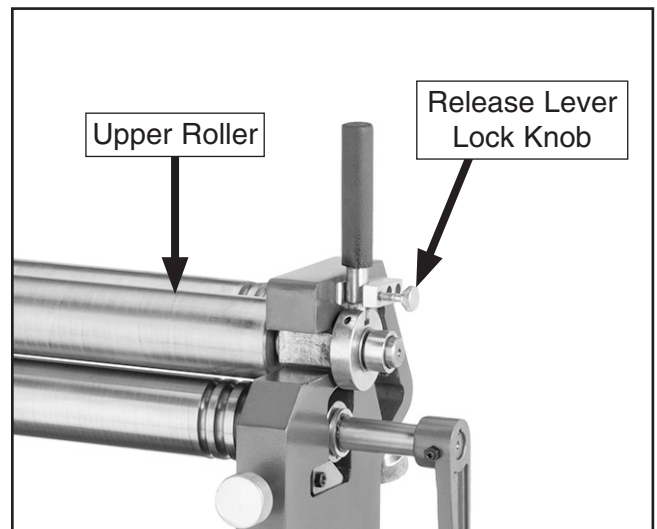

Figure 30. Upper roller secured.
- Rotate upper roller release lever upward to its vertical position, and tighten release lever lock knob to secure upper roller (see **Figure 30**).